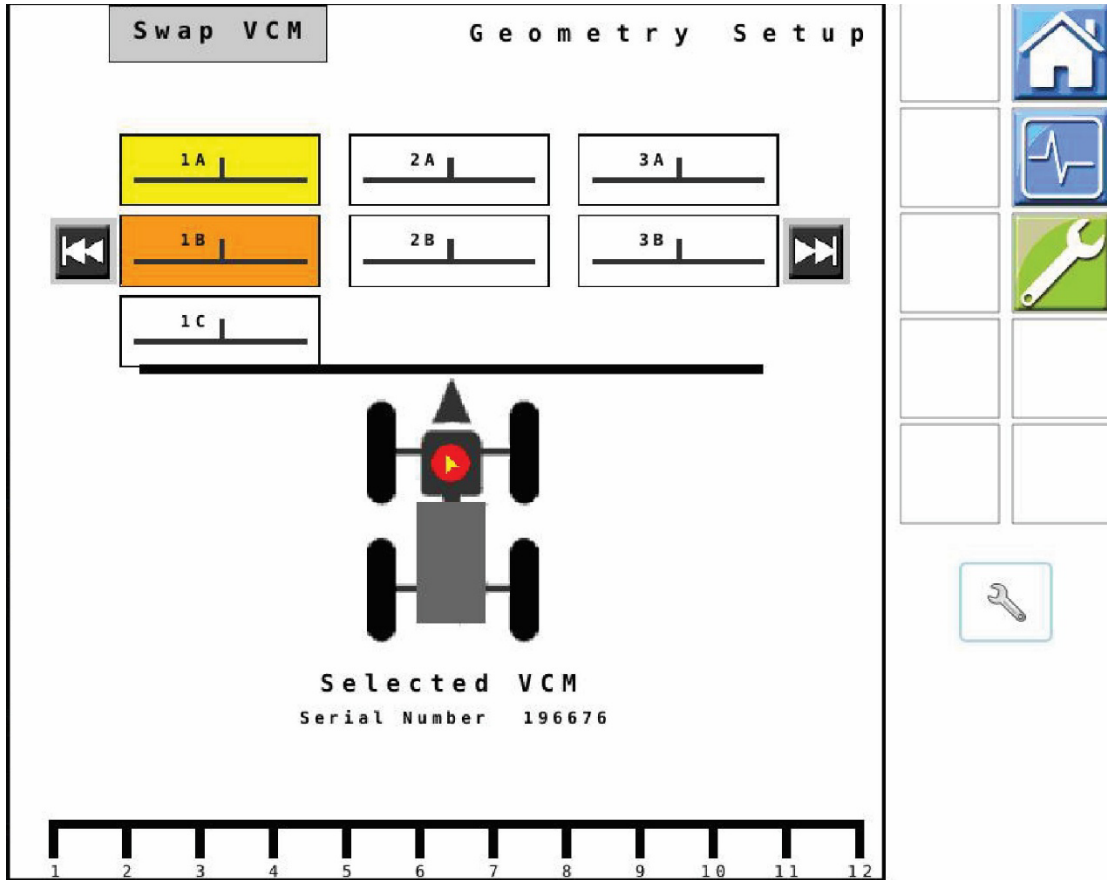

Figure 6 — Geometry Setup – Leap Start VCMs
**Figure 6:** If your machine is equipped with Leap Start VCMs, the process will be similar, with the exception of the necessity of swapping orientations of each VCM.